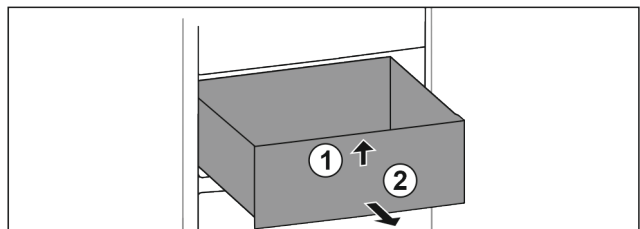

Fig. 58
- Lift up drawer at the front. Fig. 58 (1)
- Remove drawer to the front. Fig. 58 (2)